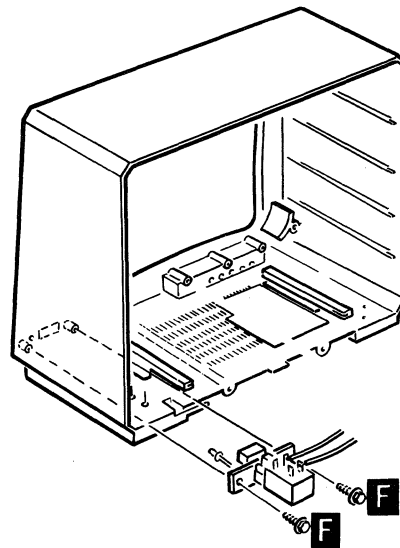

Figure 6.9
2. Refer to Figure 6.9 and remove the two 8-18 x .437" hex head screws at F that secure the switch assembly to the mounting bracket.